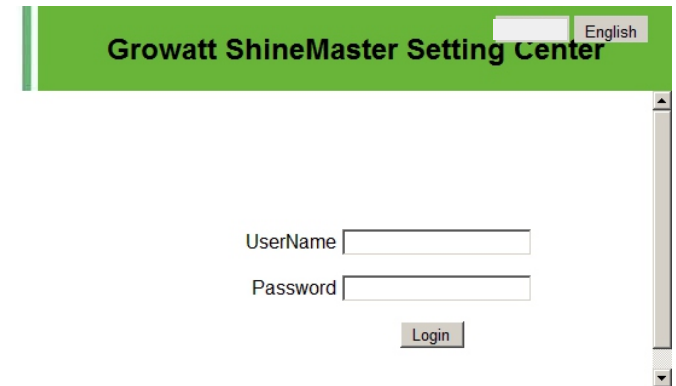

Fig 8.25
A. If the user successfully visits the shineMaster built-in page, they can go directly to the built-in page login interface, as shown in figure 8.25 below.